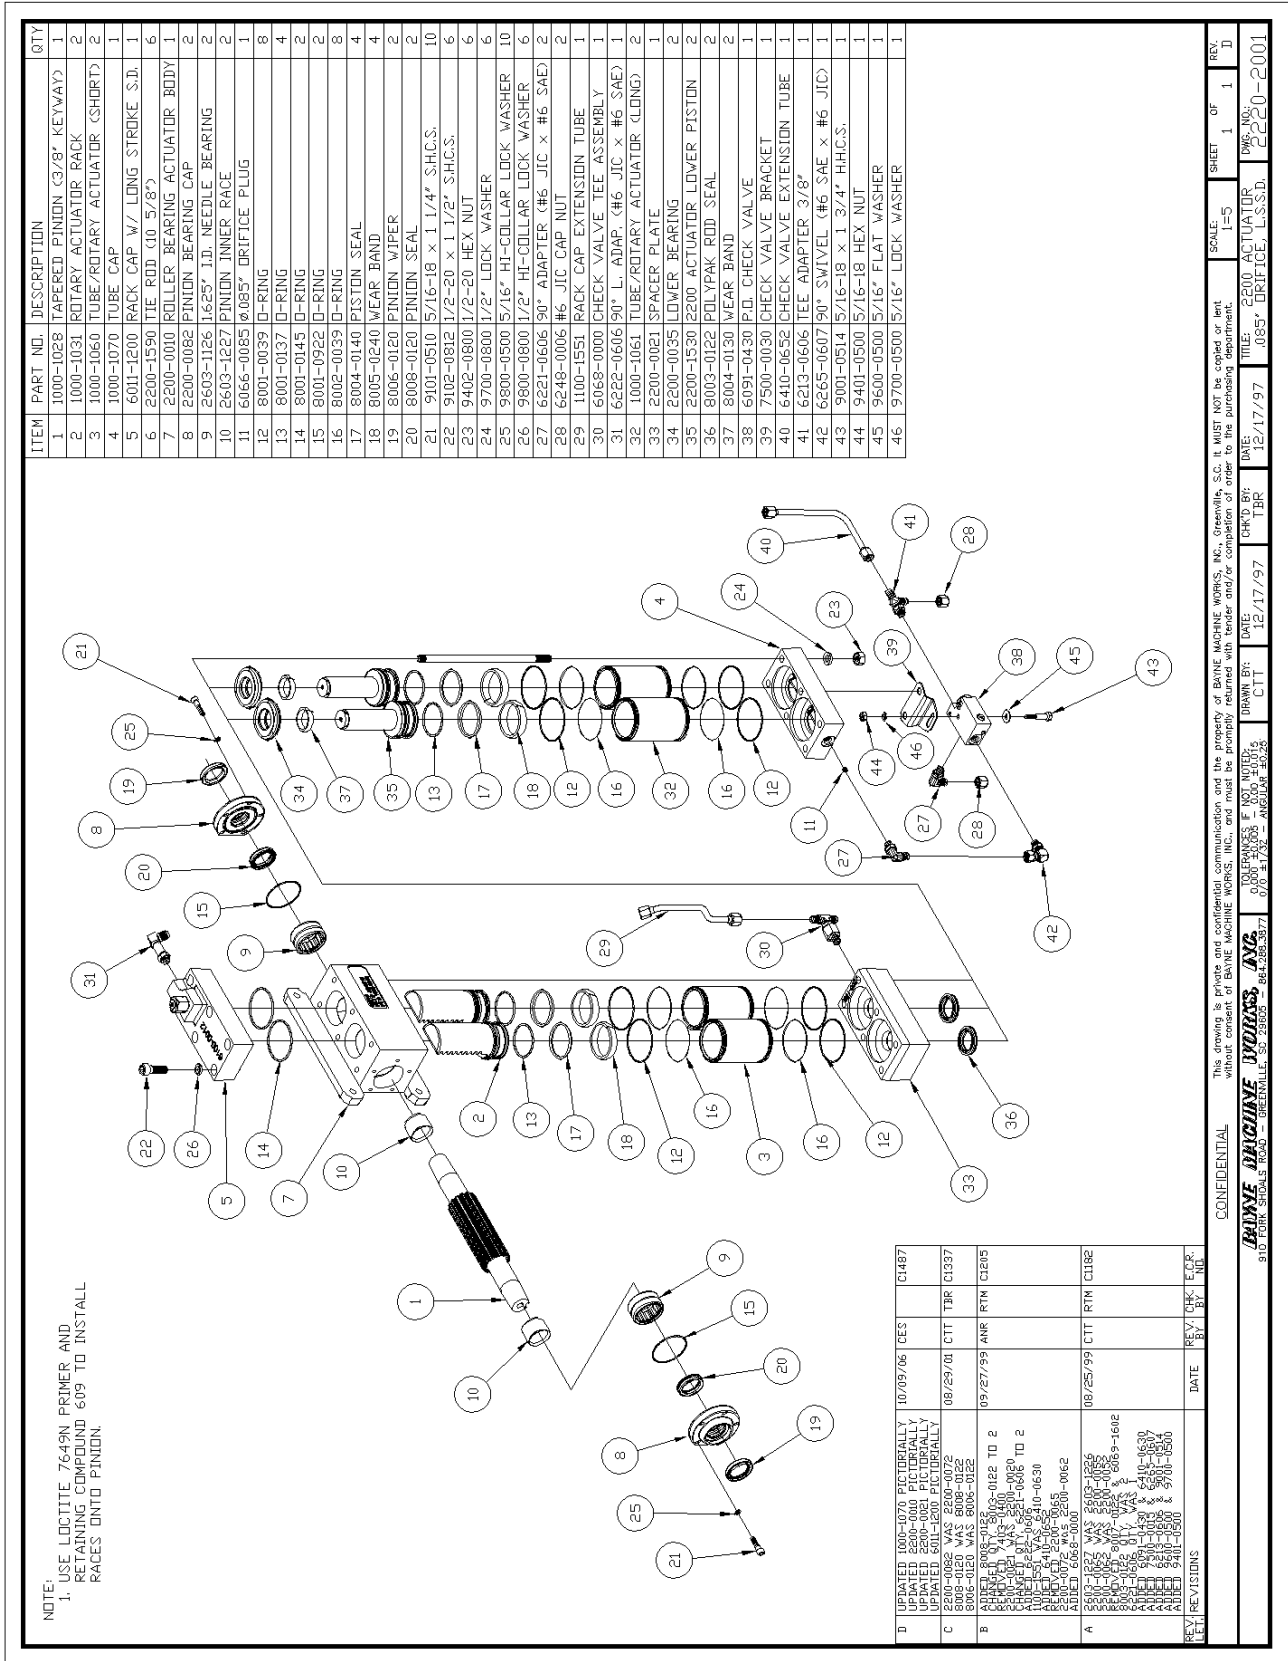

figure A-17
Before starting the assembly of the Rotary Actuator, refer to the exploded parts drawing and parts list (fig. A-17 found at the end of these instructions) to familiarize yourself with the individual components. Prepare a clean surface, in an area free of blowing dust and contaminants in which to assemble the Rotary Actuator. Be sure that all parts are thoroughly clean and dry before starting assembly.
3. Install the tube seal (12) (fig. A-3) and “square” tube seal backup (16) on each end of the “shorter” actuator tubes (3) (fig. A-17). Be sure that the “square” tube seal backup ring is toward the inside of the tubes at both ends as shown. Press all rings firmly into the grooves. Repeat this procedure for the “longer” lower piston tubes (32) (fig. A-17).
6. Coat the head portion of the racks (2) (fig. A-17) with STP Oil Treatment as shown in figure A-6. Install the racks, head portion up with the teeth facing the flanges of the actuator body, into the dual set of bores in the body. Simultaneously slide the racks into the bores so that the racks mesh with the pinion in the same position. Rotate the pinion shaft to engage the racks into the pinion.
8. Coat one end of the “shorter” actuator tubes (3) (fig. A-17) around the seal area with STP Oil Treatment as shown in figure A-8. Using a rubber mallet, drive the coated end of the tube onto the exposed rack until the tube end seats in the actuator body, making sure that the seals remain in place as the tube enters the counter-bore. Repeat this procedure for the other side.
14. Coat one end of the “longer” lower piston tubes (32) (fig. A-17) around the seal area with STP Oil Treatment as shown in figure A-8. Using a rubber mallet, drive the coated end of the tube into the exposed bore of the spacer plate until the tube end seats against the lower bearing, making sure that the seals remain in place as the tube enters the counter-bore. Repeat this procedure for the other side.
16. Install the lower pistons (35) (fig. A-17) head portion up, into the lower bearings and lower piston tubes as shown in figure A-17. Tap the lower pistons using a rubber mallet until they stop against the racks.
17. Install the check valve tee assembly (30) (fig. A-17) into the spacer plate.
18. Install the six tie rod studs (6) (fig. A-17) by screwing the short threaded end through the spacer plate and into the actuator body. Hand tighten only at this time (the torque needed will be applied later in the procedure).
19. Place the tube cap (4) (fig. A-17) on the table. Coat the sides of the two bores in the tube cap with STP Oil Treatment. Install the cap over the lower piston tubes and rod studs with the oil port positioned to the left as shown in figure A-17. Using a rubber mallet, tap the tube cap over the tubes until the tubes seat in the cap, making sure that the seals remain in place.
20. Place the check valve mounting bracket (39) (fig. A-17) over the end of the two middle rod studs with the extension pointing towards the oil port in the tube cap as shown in figure A-17.
21. Install the hex nuts (23) (fig. A-17) and lock washers (24) on the tie rod studs. Torque the nuts to 50 ft-lb. in the sequence shown in figure A-12.
22. Place the rack cap (5) (fig. A-17) bore side up on the table and coat the edge of each bore with STP Oil Treatment. Install the rack cap seals (14) (fig. A-13) in the rack cap.
23. Reposition the actuator on the table mounting flanges down, and the lower tubes facing away from the assembler. Rotate the pinion shaft to allow 1" of the rack to protrude from the top of the actuator body. Install the rack cap with the oil port positioned to the left hand side of the actuator opposite the bottom oil port located in the tube cap as shown in figure A-17. Attach the rack cap to the actuator body using the socket head bolts (22) (fig. A-17) and lock washers (26). Torque the bolts to 90 ft-lb. in the sequence shown in figure A-14.
25. Re-center the actuator pinion in the actuator body by tapping on one end of the shaft with a rubber mallet. Install the roller bearing (9) (fig. A-17), over the pinion shaft and inner race, and into the actuator body. Repeat this procedure for the other bearing.
28. Wrap masking tape or electrical tape around the pinion to cover the edges at the keyway. Slide the bearing cap assembly over the pinion shaft with the bearing cap seal facing toward the actuator body and the flat surface of the flange shown in figure A-16 facing toward the actuator mounting flanges. Press against the bearing cap until the shoulder seats against the actuator body, making sure that the seals remain in place. Install the bearing cap bolts (21) (fig. A-17) and lock washers (25). Hand tighten only at this time. Repeat this procedure for other bearing cap.
30. Install the long 90° adapter (31) (fig. A-17) into the oil port on the side of the rack cap (5). Hand tighten only at this time.
31. Install the orifice plug (11) (fig. A-17) into the oil port on the side of the tube cap (4), and install the short 90° adapter (27) into the oil port over the orifice plug as shown in figure A-17. Hand tighten only at this time.
32. Install the 90° swivel adapter (42) (fig. A-17) in the “C” port of the check valve (9). Install the tee adapter (41) in the “P” port of the check valve. Install the short 90° adapter (27) in the “V” port of the check valve.
33. Attach the 90° swivel adapter (42) (fig. A-17) in the “C” port of the check valve to the short 90° adapter (27) in the tube cap.
34. Bolt the check valve (38) (fig. A-17) to the check valve mounting bracket (39) with the 5/16" bolt (43), hex nut (44), flat washer (45), and lock washer (46) as shown in figure A-17.
35. Install the tubing assembly (29) (fig. A-17) between the long 90° adapter (31) in the rack cap and the check valve tee assembly (30) in the spacer plate (33).
36. Install the tubing assembly (40) (fig. A-17) between the check valve tee assembly (30) in the spacer plate (33) and the "P" port of the check valve (38).
37. Tighten all connections, and install the cap nuts (28) (fig. A-17) on the open adapters as shown in figure A-17 to prevent contamination of the unit until the hoses are connected.